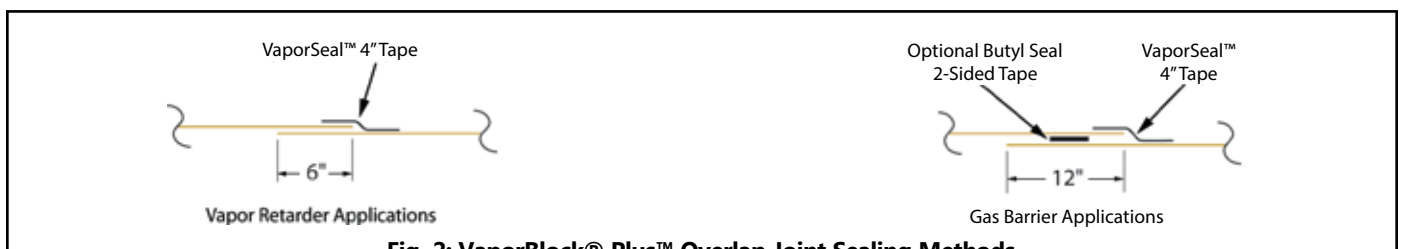

Fig. 2: VaporBlock® Plus™ Overlap Joint Sealing Methods
- 1.3. Lap VaporBlock® Plus™ over the footings and seal with VIAFLEX Butyl Seal tape at the footing-wall connection. Prime concrete surfaces, when necessary, and assure they are dry and clean prior to applying VIAFLEX Butyl Seal Tape. Apply even and firm pressure with a rubber roller. Overlap joints a minimum of 6" and seal overlap with 4" VaporSeal™ Tape. When used as a gas barrier, overlap joints a minimum of 12" and seal in-between overlap with an optional 2-sided VIAFLEX Butyl Seal Tape. Then seal with 4" VaporSeal™ Tape centered on the overlap seam. (Fig. 2)